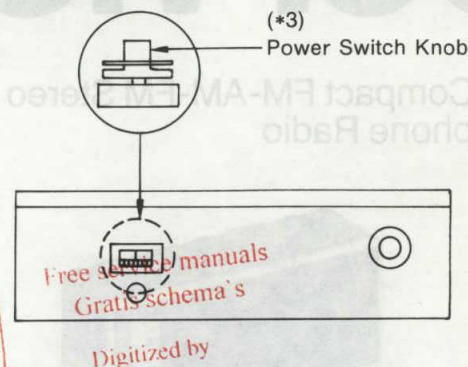

Fig. 5
*3 Be careful not to misset the power switch knob. (Refer to Fig. 5)